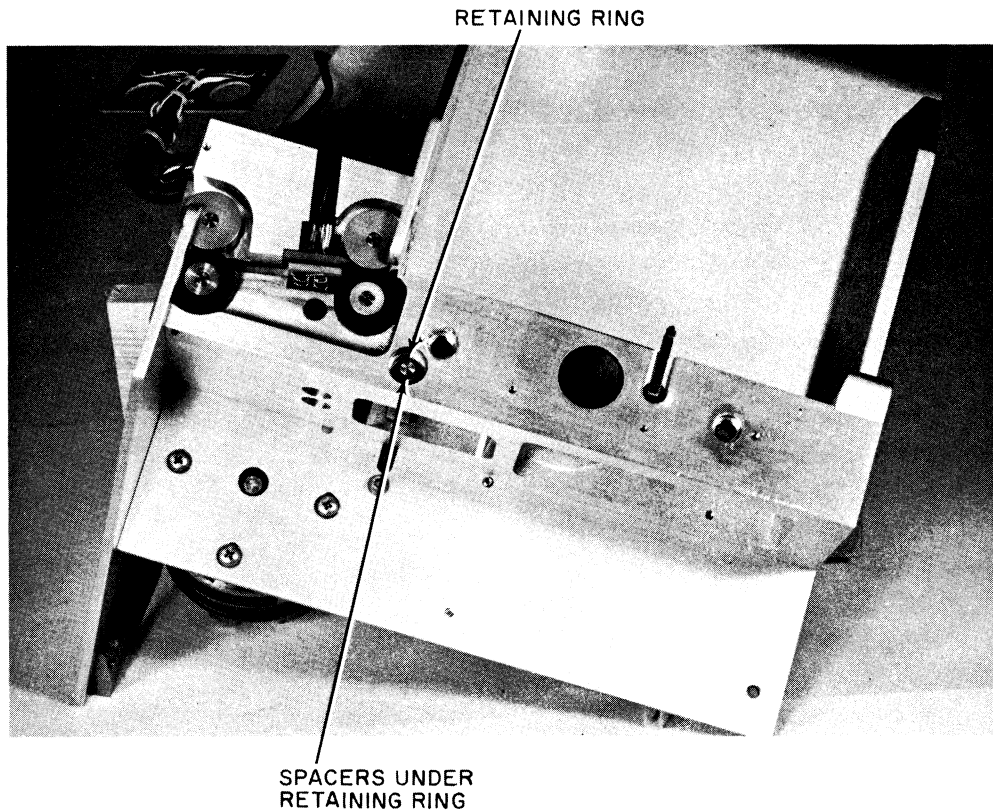

Figure 9-16. Top View Casting Assembly
- c. Using a #2 retaining ring remover tool, remove retaining ring from top of picker shaft, figure 9-16.